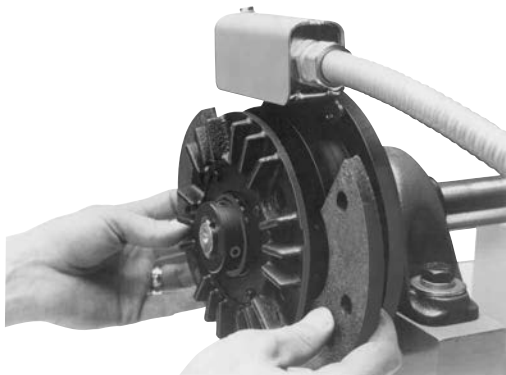

Figure 12
5. Lift out the worn friction material segments. (See Figure 12)